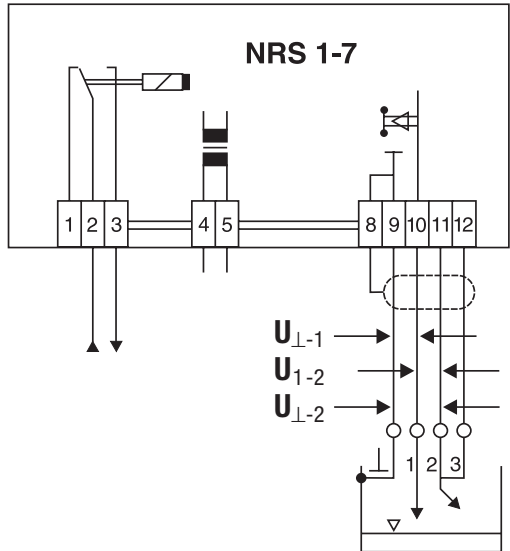
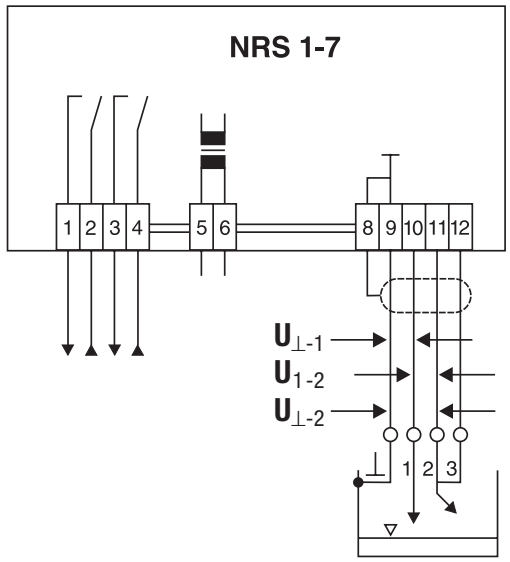

Fig. 10
Fig. 11
Use this voltage table as reference when checking the level electrode for malfunction or submersion. Take the wiring diagram (see **Fig. 10, Fig. 11**) into account.
Check that the NRS 1-7 and the associated level electrode are wired in accordance with the wiring diagram, **Fig. 10**, **Fig. 11**.
**Remedy:** Check length of electrode tip. Measure the conductivity of the process or boiler water and compare the values obtained with the marking on the name plate. Check correct wiring of level switch and electrode in accordance with wiring diagram, **Fig. 10, Fig. 11**.
**Fault:** After raising the water level above the low-level mark, the two red LEDs ② are not extinguished or only after quite a considerable period.
**Fault:** One or both red LEDs ② light up without the level having fallen below the low-level mark.